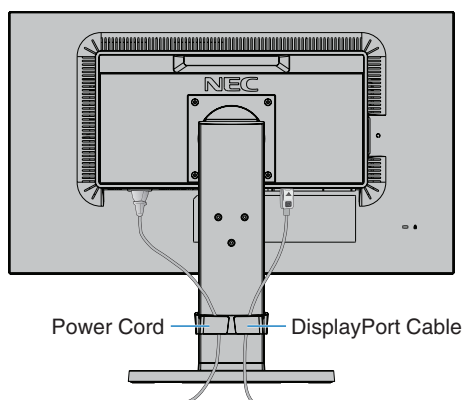
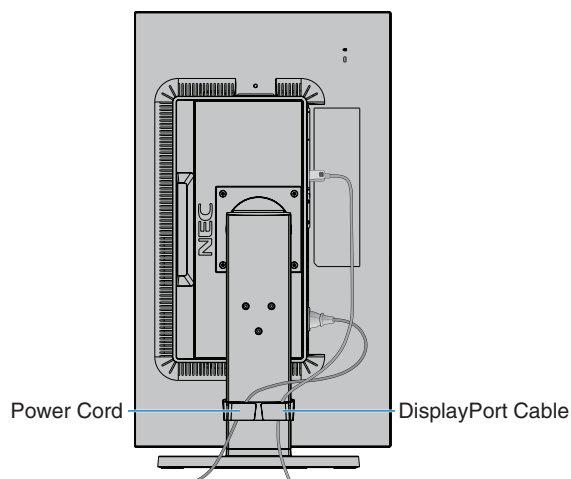

Figure C.2
Figure C.3
5. Place the cables in the cable holder firmly and evenly (**Figure C.2** and **Figure C.3**).